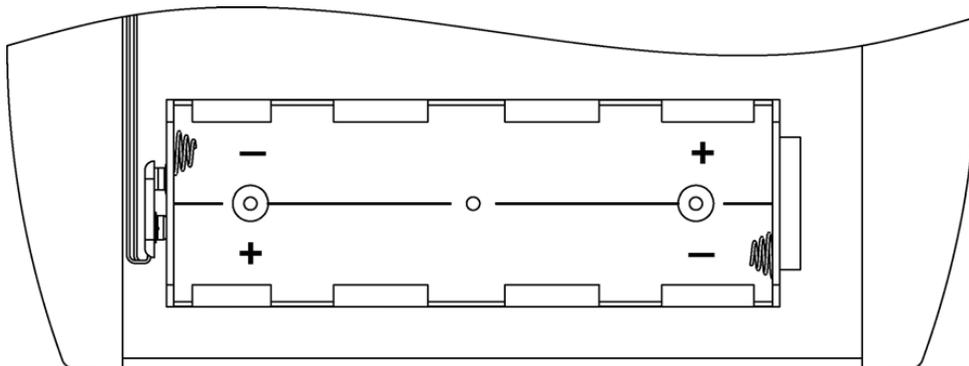

Figure No. 4
6. Install the new 6 "C" size batteries in the holder, noting the polarity markings located in the battery holder. Refer to Figure No. 4.